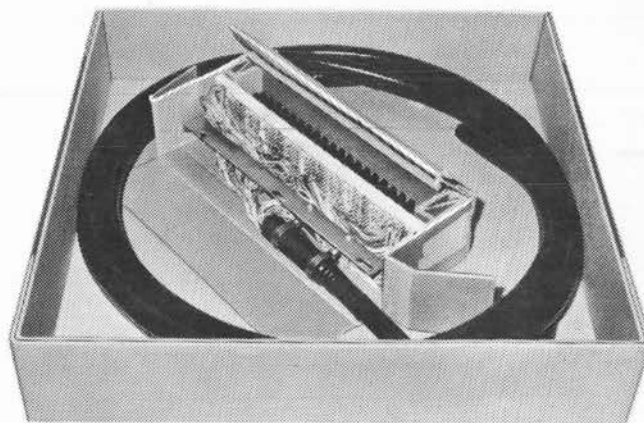

Figure 8
- 4.02 When unpacking the connector from its shipping carton, use care so as not to damage the connector, modules, or stub. (See figure 8.)